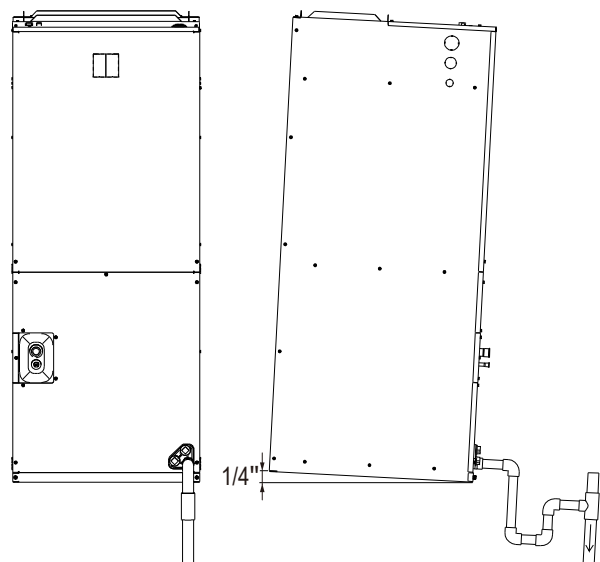
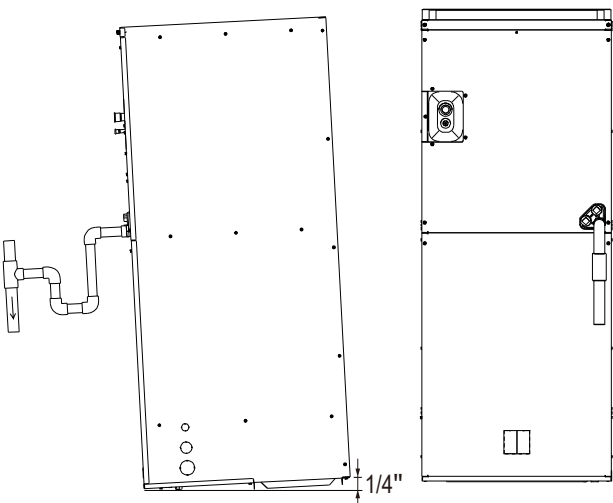
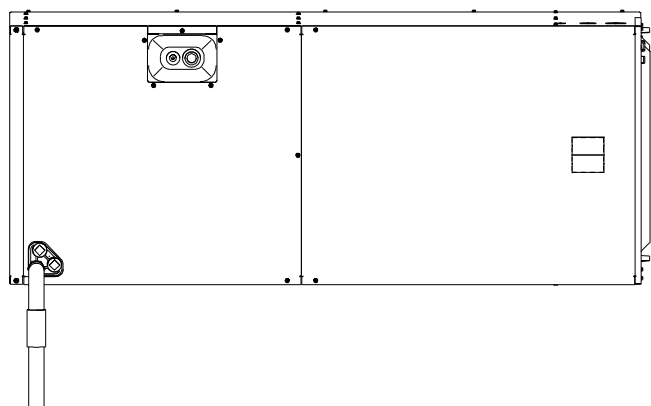
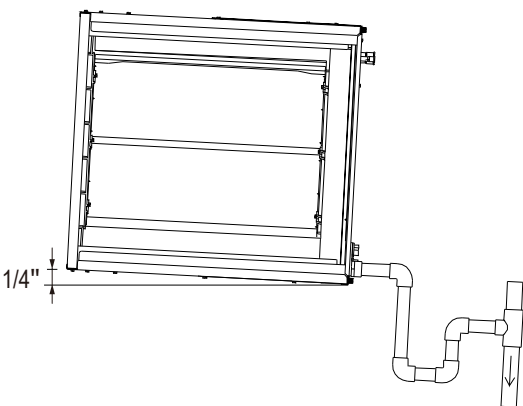

Fig.8-2 Vertically upflow view
Fig.8-3 Vertically downflow view
Fig.8-4 Horizontally right view
Fig.8-5 Horizontally left view
- Make sure unit is level or pitched slightly toward primary drain connection so that water will drain completely from the pan. Up to an additional 1/4" rise over the width or depth of the unit is allowed to create additional sloping towards the drain. Unit must be positioned between level and 1/4" rise, sloping toward the drain connections. See Fig.8-2, Fig.8-3, Fig.8-4, Fig.8-5.